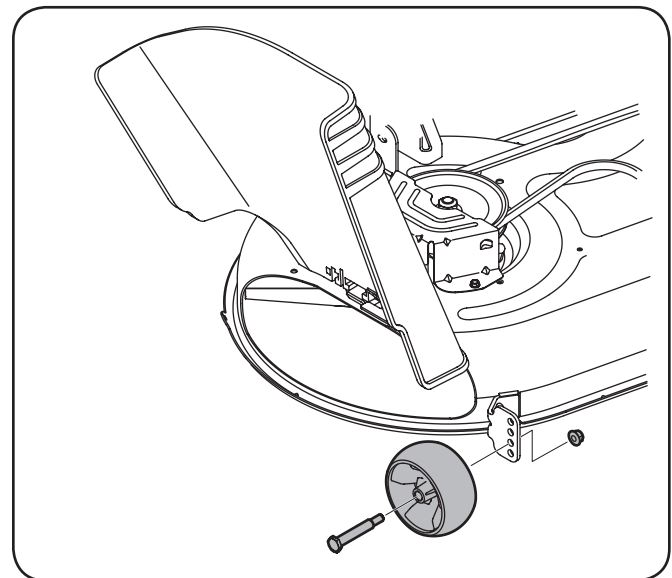

Figure 3-7
- b. Remove the gauge wheels by removing the lock nuts and shoulder screws which secure them to the deck. See Figure 3-7.